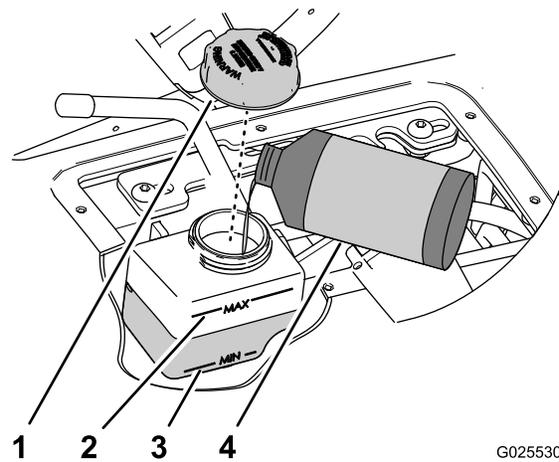

Figure 71
- Check the fluid level in the reservoir for the speed control cylinder (Figure 71).
- Wipe clean the area around the cap for the reservoir (Figure 71).
- Remove the cap from the reservoir (Figure 71).
- Add the specified fluid to raise the level midway between the Min and Max marks on the side of the reservoir (Figure 71).
- Install the cap hand tight (Figure 71).